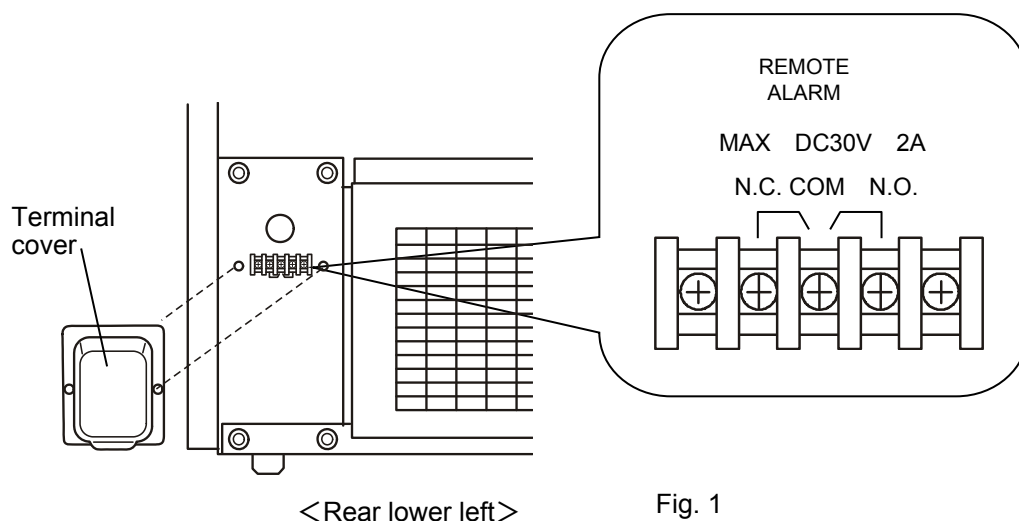

Fig. 1
1. Remove the terminal cover at rear lower left of the cabinet by unscrewing 2 screws. [Fig. 1]
Follow the procedure below when replacing a fluorescent lamp. The fluorescent lamp is located vertically at the back of the center mullion. [Fig. 1]
The glow starter is located on the top front in the chamber (upper left of the fluorescent lamp). [Fig. 1]
1. As shown in Fig. 1, remove 2 hand screws on the bottom of the unit cover and remove the unit cover.